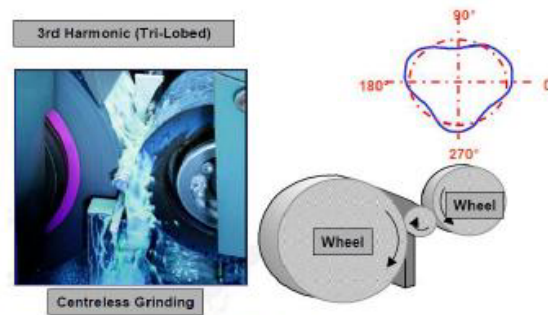

Figure .2.
- Another common cause of tri-lobing comes from the centreless grinding process; this is where the part due to its nature (often small parts such as needle bearings or injector components) cannot be held in a chuck. The part is sandwiched between two contra-rotating grinding wheels and held up by a stay. The action of these three components invariably produces a three lobed effect which has to be controlled via accurate machine set-up. (Figure 2)